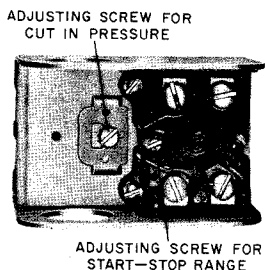

Fig. 4—B-124 Pressure Switch
- (2) **If the pressure exceeds 32 psi**, the trouble is probably in the B-124 pressure switch (in the top section of the cabinet) and adjustment or replacement of the switch will be necessary (Fig. 4).
- (1) **Put on rubber gloves.**
- (2) With the 3-conductor incoming power cord connector and the master stop-start switch on, remove the top cover of the cabinet.
- (3) Check the operation of the pressure switch by noting the pressure at which the air compressor starts and stops. The high pressure gauge should cycle within an approximate range of 20 to 30 psi.
- (4) To **increase** the start and stop range, turn the adjusting screw at the top of the terminal block in a clockwise direction (Fig. 4).
- (5) To **decrease** the start and stop range, turn the adjusting screw at the top of the terminal block in a counterclockwise direction.
- (6) If the 10-psi range difference between start and stop settings of the switch requires adjustment, turn the adjusting screw at the base of the terminal block counterclockwise to increase,